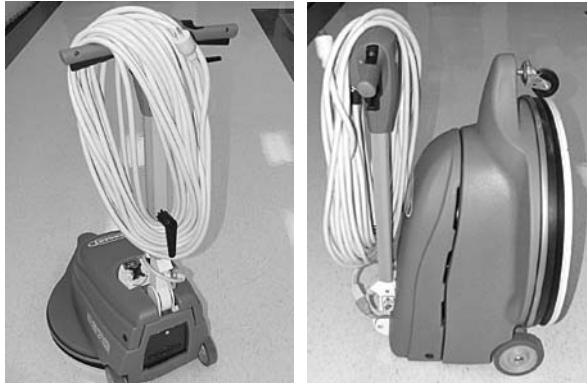

FIG. 11
1. Unplug the power cord and remove the pad from the machine. Neatly coil the cord around the cord hook and handle to prevent cord damage (Figure 11).
3. For minimal storage space, fold the handle down and store the machine as shown (Figure 11).